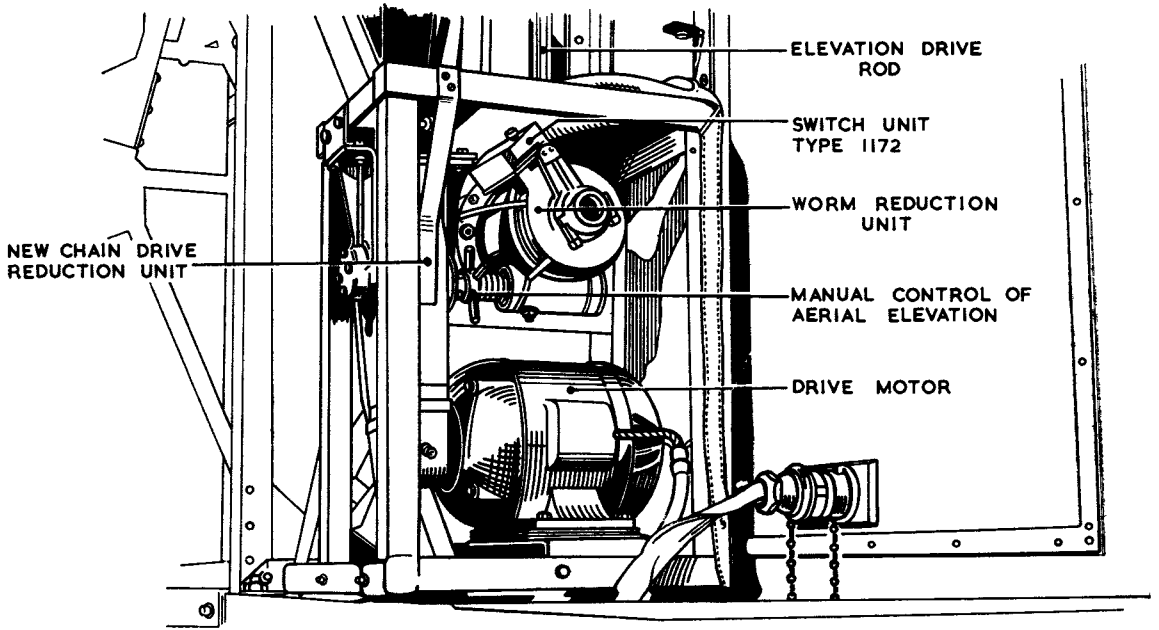

Fig. 14. Elevation gearbox
- (1) Close the ELEVATION CONTROL switch (R.V.467 distribution board).
- (2) Close the master switch (inside R.V.461C).
- (3) Close the elevation switch (display unit Type 5, console 3).
**52.** Any one of the three switches may be used to stop tilting, but that on the display unit will bring the aerial to rest at a pre-determined angle of elevation which depends on the setting of switch unit Type 1172 attached to the motor shaft. Since the motor cannot stop instantaneously, because of the inertia of the system, it will be necessary to experiment with the switch unit setting until a point is reached so that the aerial stops at the required angle of tilt (usually minimum). Two knurled screws must be slackened in order to adjust the position of the striking area of the switch unit (*fig. 14*). Modification 405/1 may have been done on the equipment. This involves replacement of switch unit Type 1172 by switch unit Type 902 and gives elevation strobe facilities (*para. 11A*).